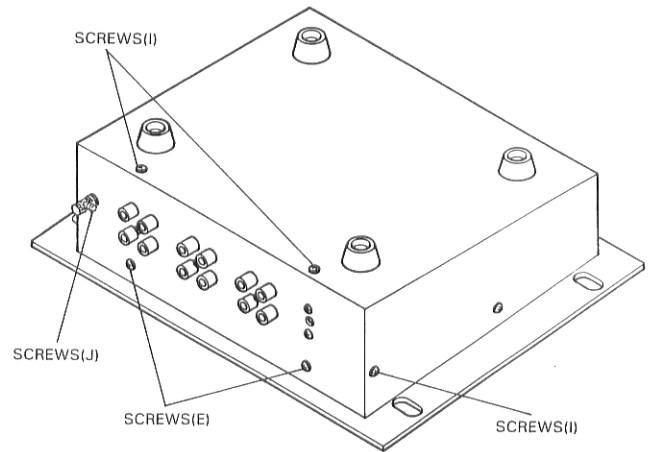
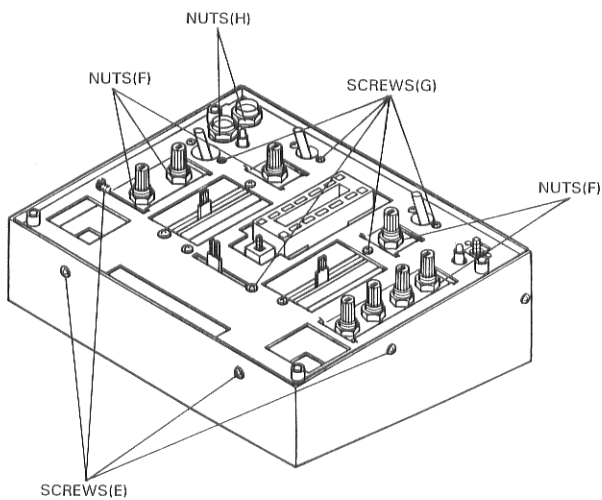

Fig. 3
Fig. 2
- (a) Remove 2 screws(I). (Fig.3)
- (b) Remove 2 screws(J). (Fig.3)
- (a) Remove 6 screws(E). (Fig.2)(Fig.3)
- (b) Remove 8 nuts (F) (Fig.2)
- (c) Remove 12 screws (G). (Fig.2)
- (d) Remove 2 nuts(H). (Fig.2)